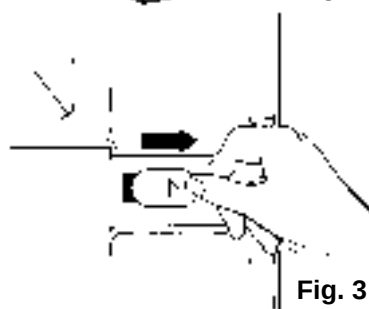

Fig. 3
4. Close the holes with the plastic covers supplied; insert the covers in the wide part of the hole and slide them toward the narrow part until they click into place (Fig. 3).